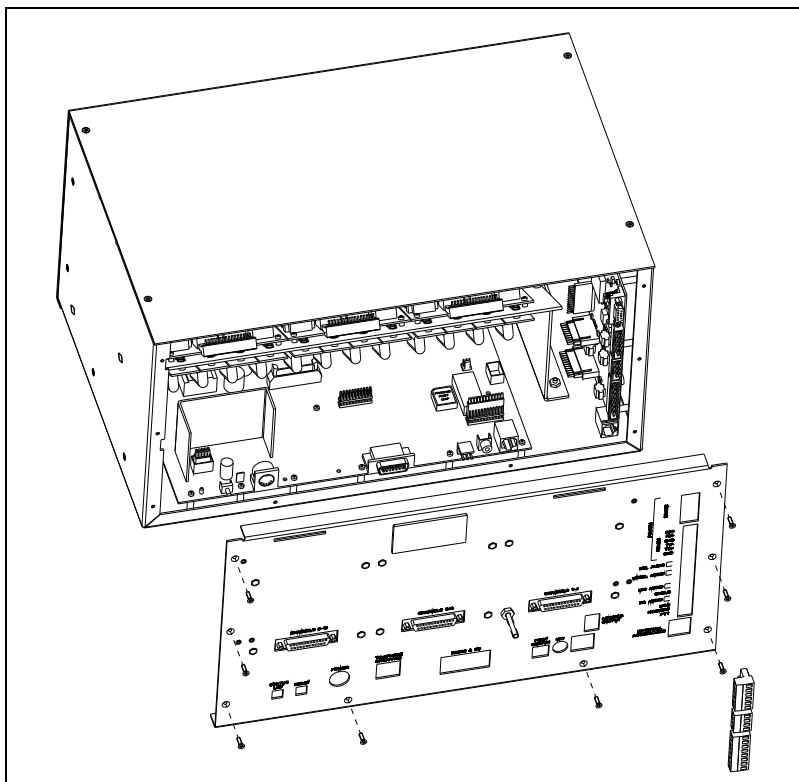

Figure 4.
2. Remove the eight screws securing the rear panel. Gently pull the rear cover from the housing and disconnect the ribbon cables (SLV-CBL-P) attached to the surge suppression PCBA. Lay the rear panel flat. See Figure 4.